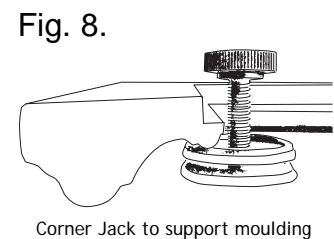

Fig. 8.
5. With some moulding, the front or rear may need support, if the frame does not rest flat on the table. Use cardboard pieces or the "Corner Jack" to support the underside of the moulding. See Fig. 8. The frame should not move while the V-Nail is being inserted. A good quality clamp to hold the frame firmly is essential to obtain a good join. See Step 1.